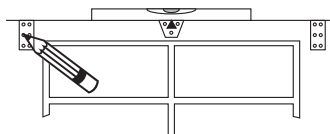

fig. 3
4. Holding the bracket up to the fixing line, mark off the holes for the screws with a pencil (Fig. 3). If you are mounting on to a batten drill a 2mm diameter hole in the batten to a depth of 30mm. Use a spirit level to ensure the holes are straight. Repeat on the other side of the window.